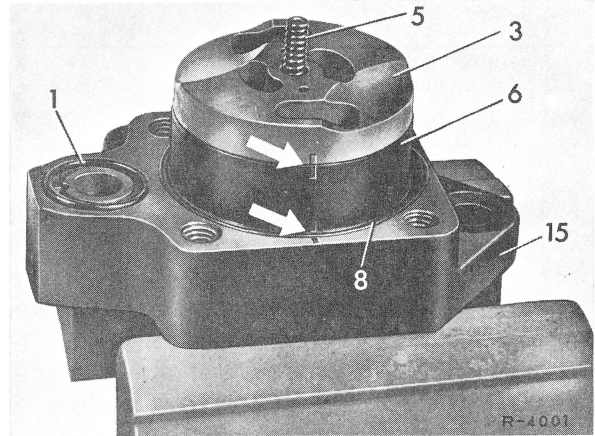

Fig. 8
9 Place both O-rings (1 and 8) on housing cover (15) (Fig. 8).